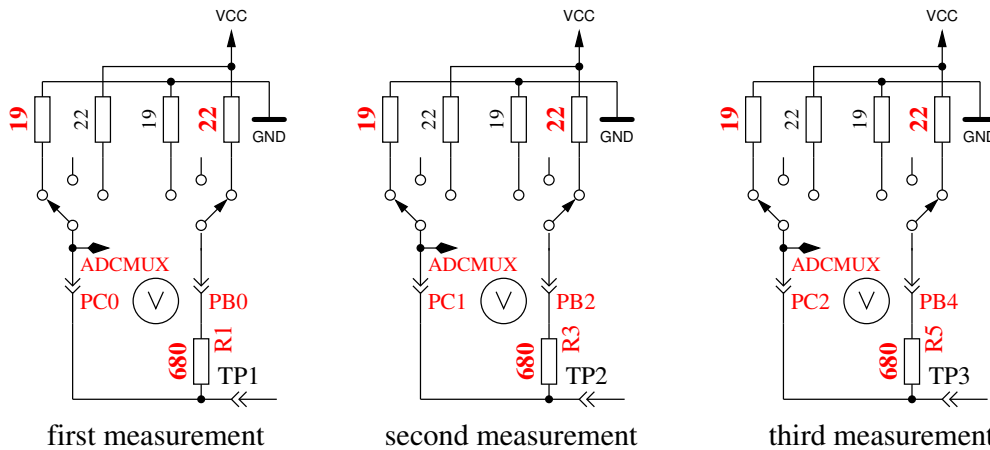

Figure 5.38: Measurement of internal resistance of Port C switched to GND
5. **This step tests the capability of GND (-) connected $470k\Omega$ resistors (H) to pull the test pins to GND.** Row 1 shows the text “RH-”. Row 2 should display zero for all three pins.
6. **This step tests the capability of VCC (+) connected $470k\Omega$ resistors (H) to pull the test pins to VCC (+).** Row 1 shows the text “RH+”. The results are shown als difference to VCC and should be near zero. Great differences from the best value for test 5 and 6 are errors such as isolation problem, flux material or damaged port.
7. **Measuring of internal resistance of pin output switched to the GND signal.** This test and the follwing tests will only be done, if the option AUTO_CAL is selected. The internal resistance of the port C outputs switched to GND (-) are measured with the current of to VCC (+) switched 680Ω resistors, see Figure 5.38. Only the three pins of the ADC port are measured, the resistor port B (PB0,PB2 and PB4) can not be measured without hardware modification. Is is assumed that the port resistance of the different ports are nearly identical. The resistor value will be shown in the next test.